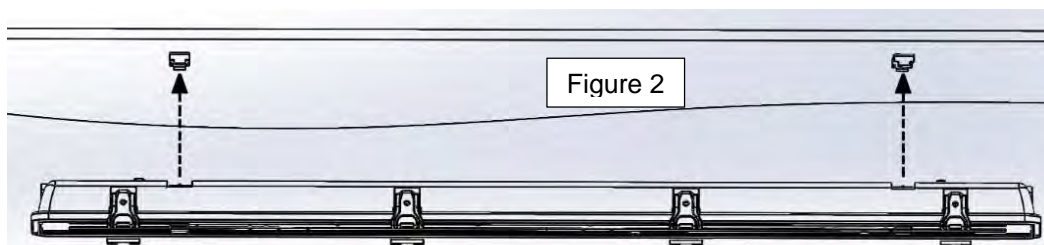

Figure 2
2. Attach body to mounting clips as shown in figure 2.